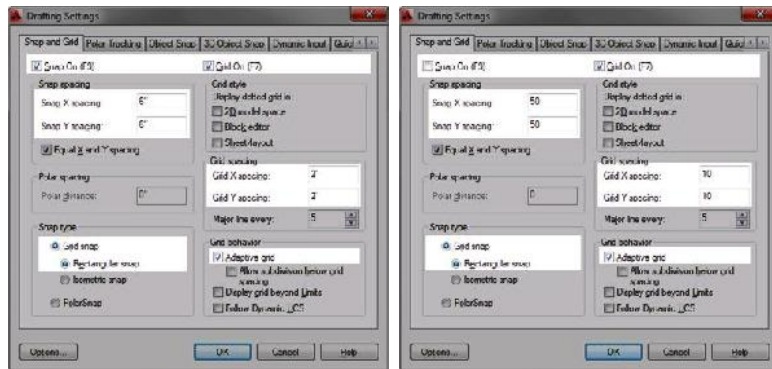

FIGURE 3.10: New settings on the Snap And Grid tab of the Drafting Settings dialog box using imperial units (left) and metric units (right)
1. Right-click the Snap button on the status bar and click Snap Settings. The Drafting Settings dialog box opens to the Snap And Grid tab. The settings in both the Grid Spacing and Snap Spacing groups include X and Y Spacing settings. Notice that they're all set for a spacing of $\frac{1}{2}$ " (10).
2. In the Grid Spacing group, click in the Grid X Spacing text box and change $\frac{1}{2}$ " (10) to 2' (1000), as shown in Figure 3.10. Then click in the Grid Y Spacing text box. It automatically changes to match the Grid X Spacing text box.
3. In the Snap Spacing group, change the Snap X Spacing setting to 6 (50), as shown in Figure 3.10. (The inch sign isn't required.) Then click the Snap Y Spacing input box or press the Tab key. The Snap Y spacing automatically changes to match the Snap X Spacing setting.
4. In the Snap Type group, be sure Grid Snap and Rectangular Snap are selected (Figure 3.10).
6. The Snap On and Grid On check boxes at the top of the dialog box should be selected. If they aren't, click them. Your Snap And Grid tab should look like Figure 3.10.
7. Click OK. The new 2' (1000 mm) grid is now visible. Move the cursor around on the grid—be sure Snap is on. (Check the Snap Mode button on the status bar; it's pressed when Snap is on.) Notice that the coordinate readout displays coordinates to the nearest 6" (50 mm) to conform to the new 6" (50) snap spacing. The cursor stops at several snap points between each grid dot.